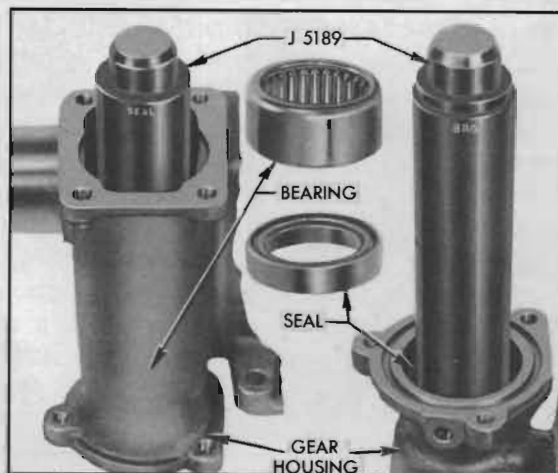

Figure 7-26—Installing Bearing and Seal in Gear Housing
6. Remove worm seal from gear housing with a punch and use Installer J 5189 to install a new seal with spring side outward. See figure 7-26.
7. If worm bearing in housing requires replacement, drive it out with a punch and use Installer J 5189 to install the new bearing. See figure 7-26.